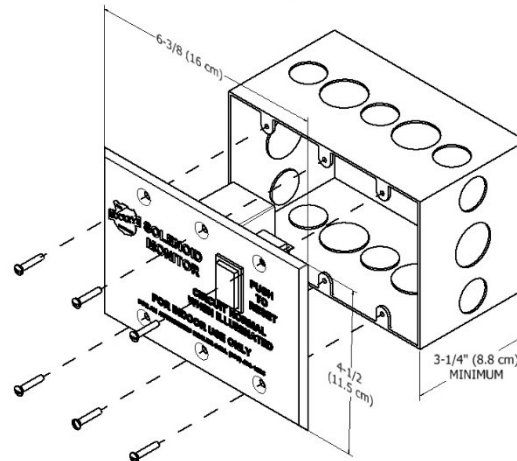
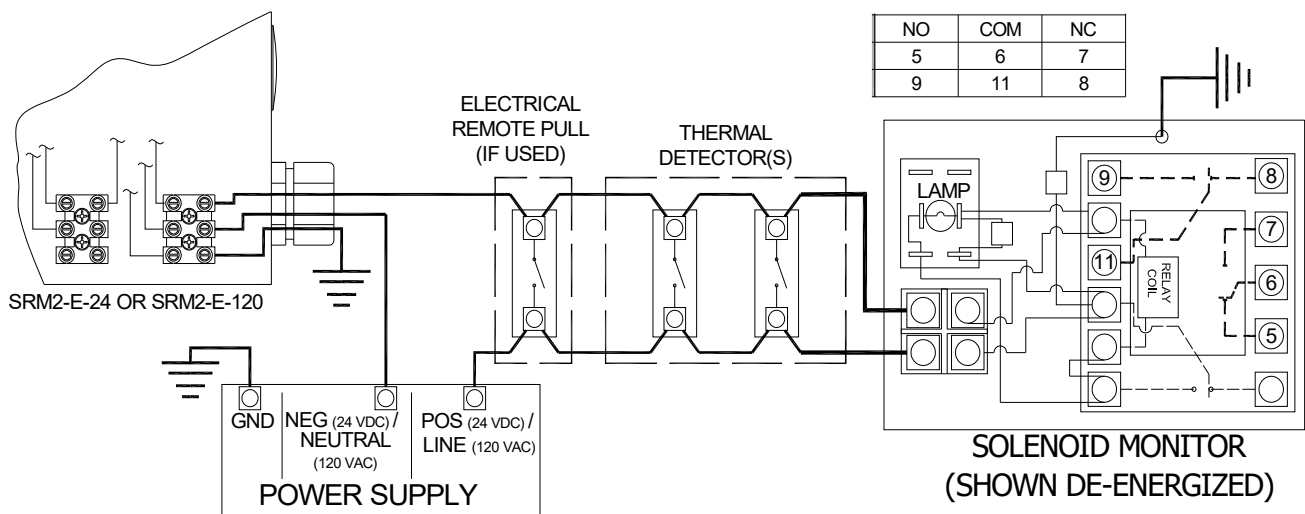

Figure 4-58
Figure 4-59
2. The panel mounts directly to a three-gang electrical conduit switch box (provided by others), that is at least 3-1/4" (8.3 cm) deep. See **Figure 4-58**.
The **Model SRM-E-24** Electrical Systems Releasing Module requires a 24 VDC power supply with a 2A rating. The detection/actuation circuit shall be supervised by the **Model SM-24** Solenoid Monitor (see Solenoid Monitor Installation). See **Figure 4-59**.
The **Model SRM-E-120** Electrical Systems Releasing Module requires a 1A, 120 VAC power supply. The detection/actuation circuit shall be supervised by the **Model SM-120** Solenoid Monitor (see Solenoid Monitor Installation). See **Figure 4-59**.
Once the Systems Releasing Module, thermal detectors, power supply, and Solenoid Monitor have been installed the detection/actuation circuit can be wired as follows (see **Figure 4-58**):
connected to the line/positive port of the power supply. See **Figure 4-58** and **Figure 4-59**.